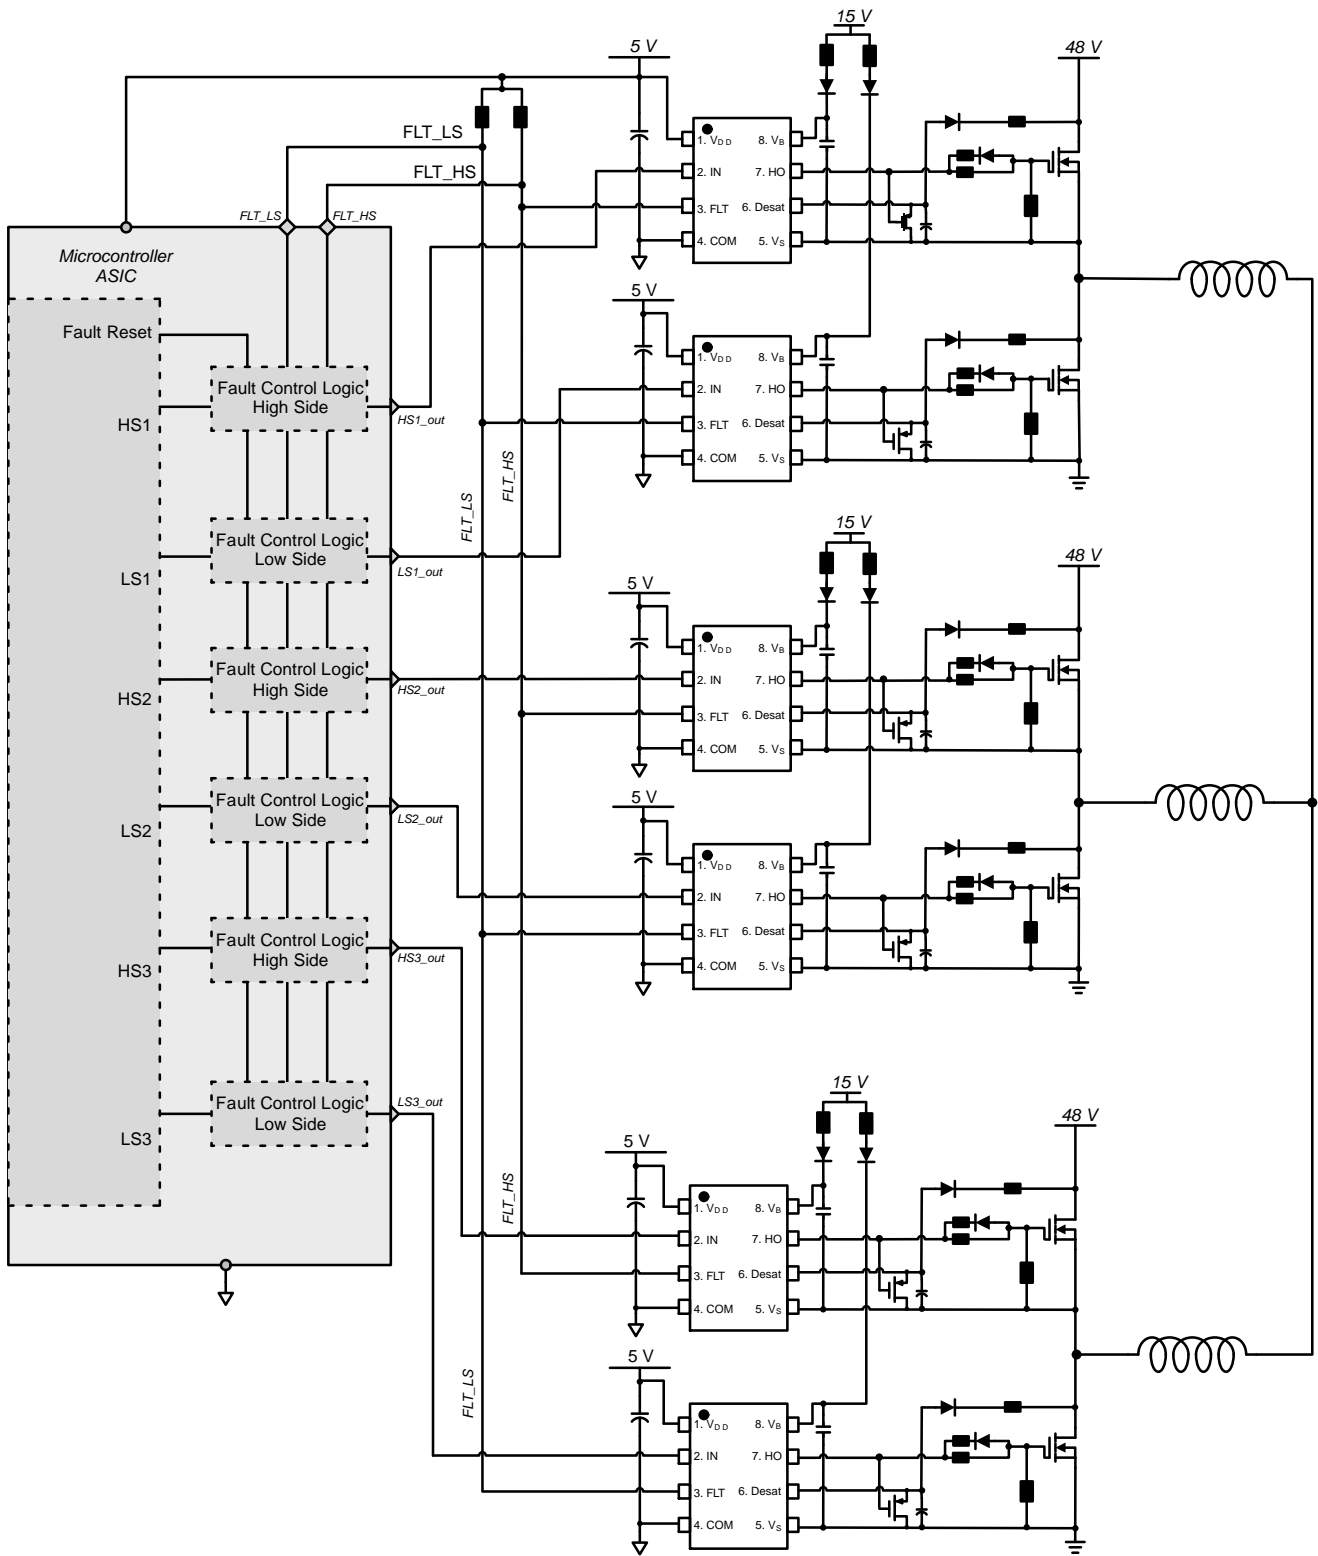
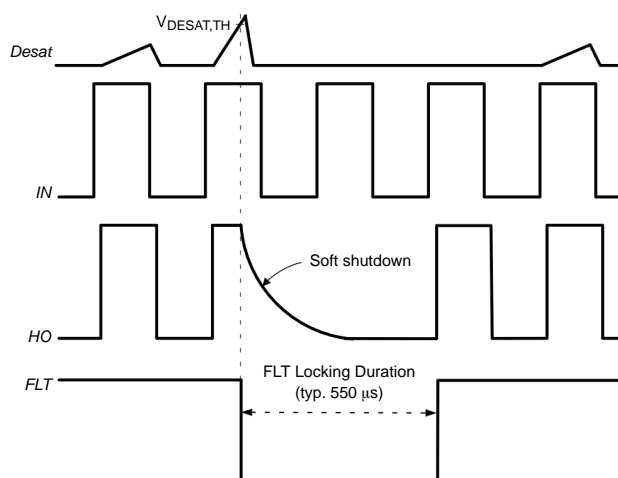

Figure 10. Block Diagram with Fault Pins Interconnected for Fault Communication
Figure 11. Desaturation Protection and Soft Shutdown
An internal constant current source,  $I_{desat}$ , charges an external capacitor connected to the desat pin. This allows a programmable blanking delay during every ON cycle before desat fault is processed, thus preventing false triggering. When the desat voltage goes up and reaches the desaturation threshold,  $V_{desat+}$ , the output is driven low. Further, the FLT output is activated. Please refer to data sheet Figure 19 or Figure 11 below.
To comply with functional safety requirements, the system might need to verify the proper operation of the desaturation protection circuit during startup. Figure 10 shows the external components necessary to perform a self-check of the desat protection circuit during startup.
- The self-check sequence for high side desat protection circuit is as follows: (please refer to the high side components in Figure 10 and the self-check sequence in Figure 11 for details.)